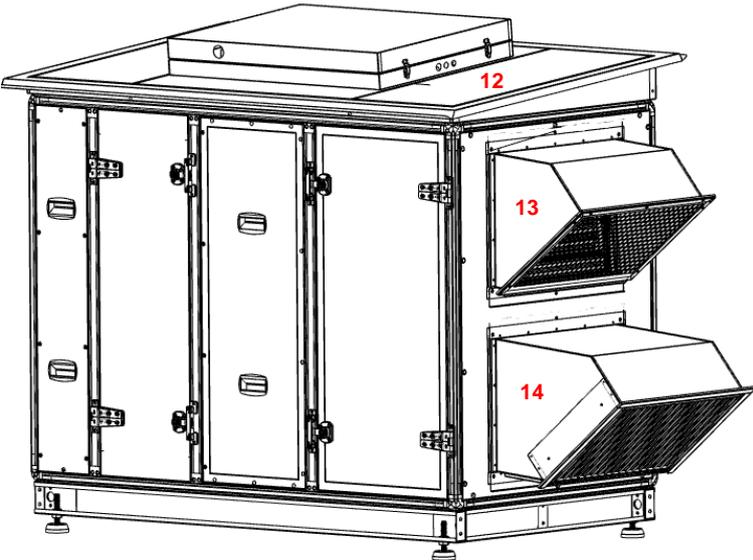

Fig. 21
- Outer view including weather roof and outdoor spigots (Fig. 21)